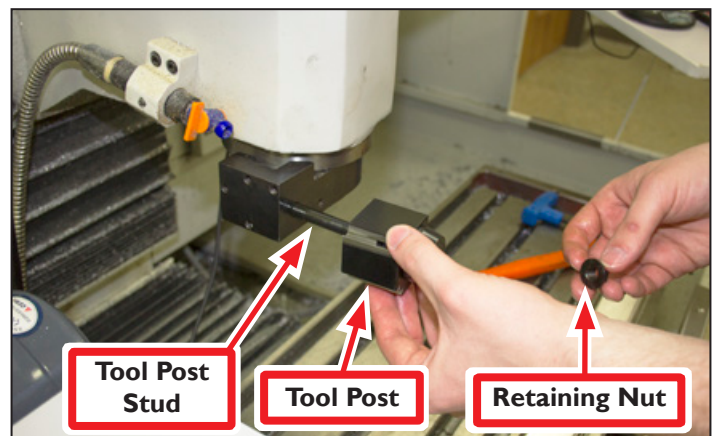

Figure 2.21
8. Identify Reverse Action Quick Change Tool Post (PN 31050); screw Tool Post Stud into Universal Spindle Arm and tighten (see **Figure 2.21**).
9. Slide Tool Post over Tool Post Stud and position so that top edge of Tool Post is visually squared up with top edge of Universal Spindle Arm; attach Retaining Nut to Tool Post Stud and tighten until finger-tight (see **Figure 2.21**).